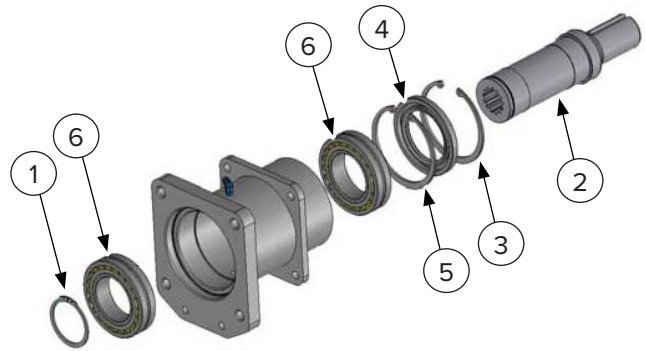

Figure 33
1. Remove the overhung load adapter shaft retaining ring [Figure 33, Item 1].